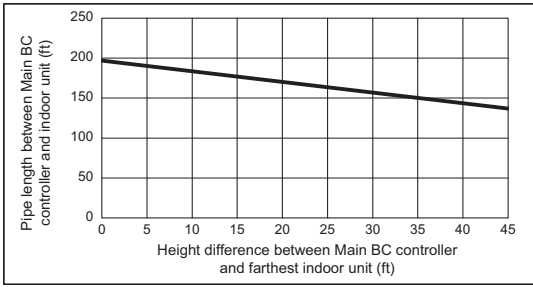

Fig. 2
- *2. Details refer to Fig. 2.
- *9. When the piping length or the vertical separation exceeds the limit specified in Fig. 2, connect a sub BC to the system. The restriction for a system with a sub BC connection is shown in Fig. 3. When a given system configuration falls within the shaded area in Fig. 3, increase the size of the high-pressure pipe and the liquid pipe between the main BC and sub BC by one size. When using P12, P15, P18, P36, or P48 model of indoor units, increase the size of the liquid branch pipe between the sub BC and indoor unit by one size. When using indoor models P54 or larger, the restrictions shown in Fig. 2 cannot be exceeded.
*9. When the piping length or the vertical separation exceeds the limit specified in Fig. 2, connect a sub BC to the system.
When using indoor models P54 or larger, the restrictions shown in Fig. 2 cannot be exceeded.